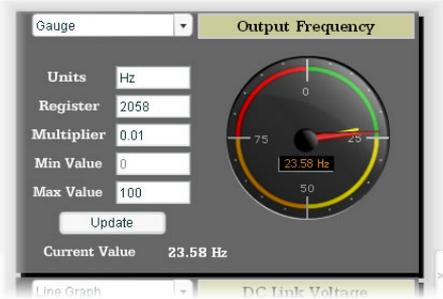

Figure 58: Gauge
Each of the gauge windows can be independently configured to display a user-defined register with a variety of flexible configuration options. While the behavior and presentation may vary slightly depending on the specific gauge chosen, all of the gauges share the following common elements (refer to Figure 58 for an example):
**Gauge:** Refer to Figure 58. This type of meter implements a rotary dial-type display format. The indicated value and units are shown numerically on the face of the gauge, and via the red indicator needle. The yellow needle shows the previous indicated value, thereby providing a simple historical reference. The "Min Value" attribute is not configurable; this gauge always starts at 0.